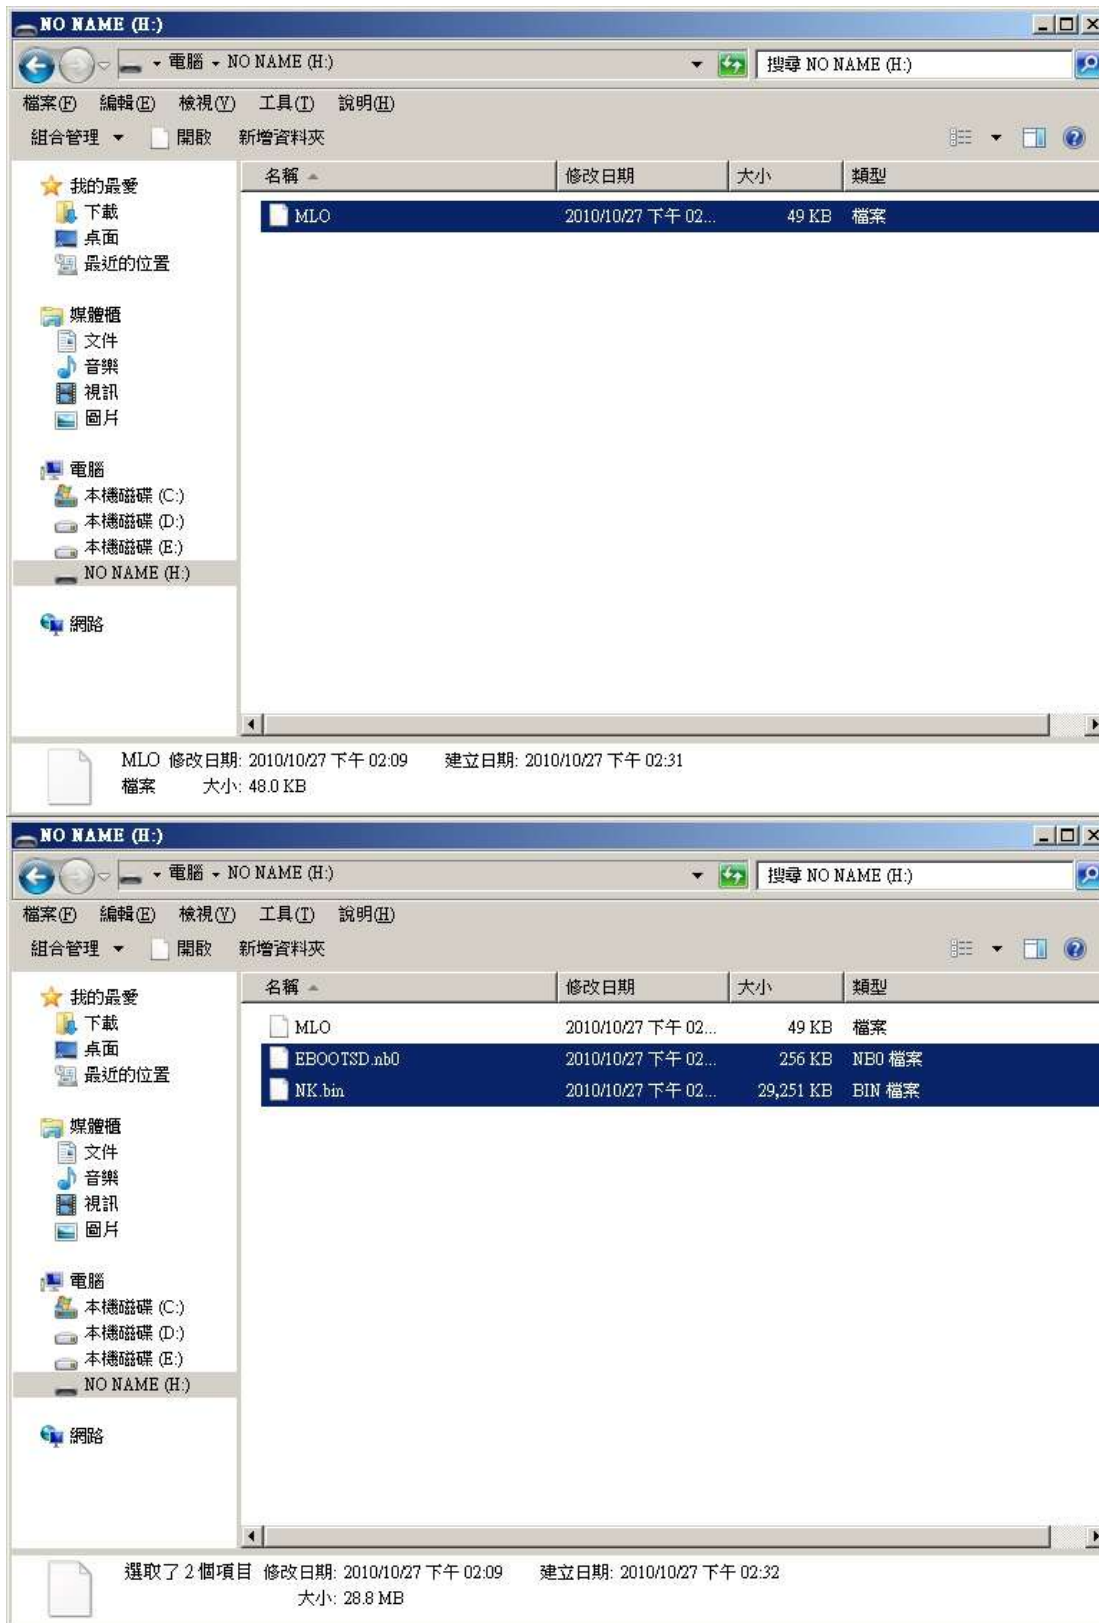

Figure 97
- Then copy “EBOOTSD.nb0” and “NK.bin” in the microSD card (See Figure 97)